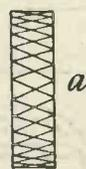

Fig. 1.—Two coils coupled.
**M**ANY amateur constructors have trouble with both high- and low-frequency amplification simply because they do not lay out their sets so as to place inductances and transformers in the best positions. It is almost an accepted canon of wireless that to control two tuned anodes without causing serious interference to other people, is so difficult as to be nearly a matter of impossibility. The writer regularly uses a pair of these couplings on a five-valve set, and he is open to wager that unless the potentiometer, rheostat and anode potential adjustments of the set are interfered with, it cannot be made to oscillate upon broadcast wavelengths. It should be said that no reaction is employed. The stability of the set is attributed almost entirely to the way in which the inductances are placed. It is not always realised that if inductances are parallel to one another, as in Fig. 1, they must be separated by very great distances before the effects of coupling cease to be felt. Hence, if the A.T.I. and one of the anode inductances are placed in this position there will be a cross coupling between them, even if they are placed far apart on the panel. One sometimes reads in text books that the point of minimum coupling is reached when the coils are placed at right angles to one another. This is a slightly misleading statement, for it might induce the constructor